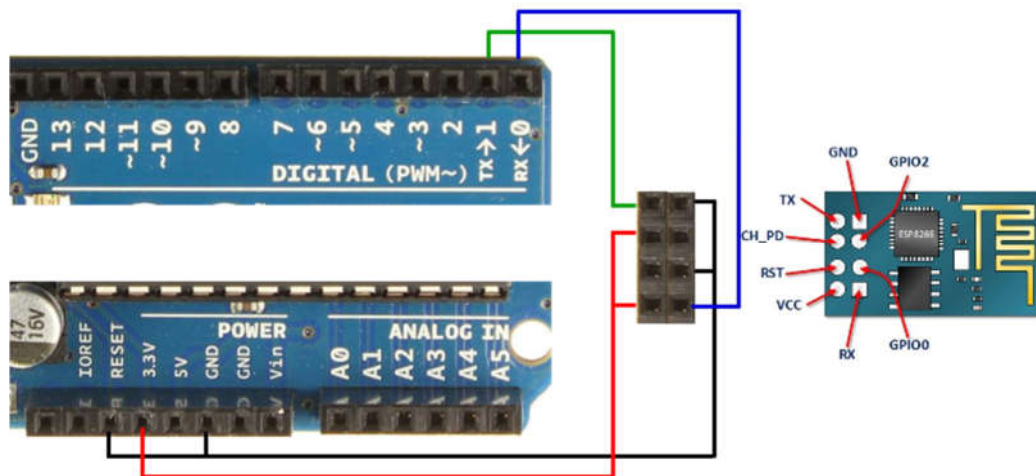

Figure 12: 2x4 Female Socket for ESP8266-01 Flashing Process.
- Use a PCB or directly a 2x4 female socket as shown in Fig. 12.